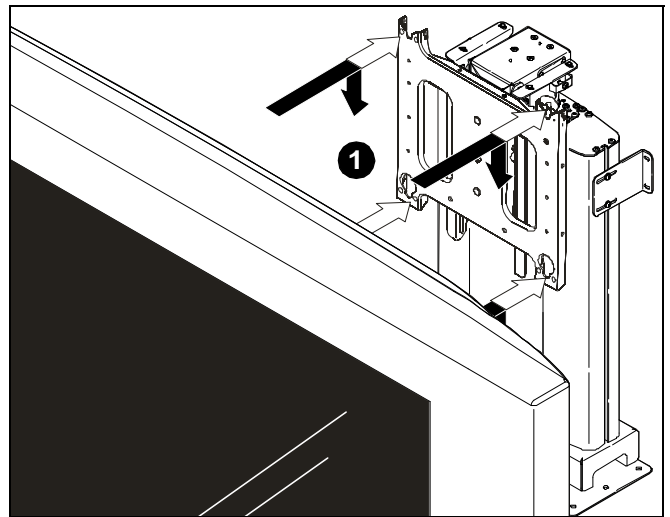
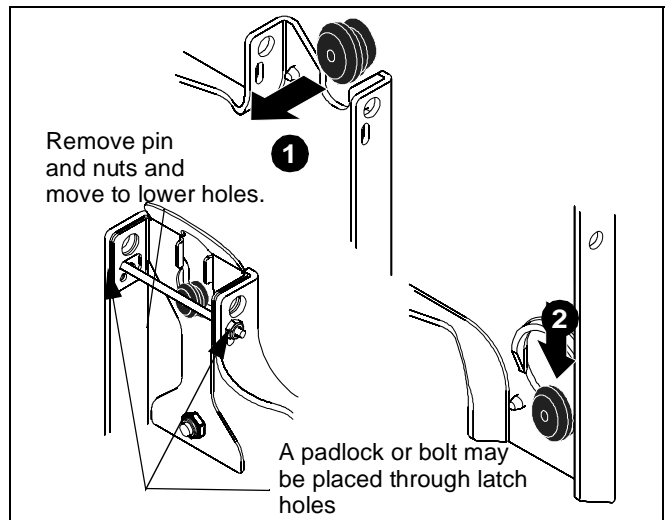

Figure 9:
Figure 10
1. While supporting both sides of display, align four mounting buttons on display or interface bracket with four mounting holes in faceplate. (See figure 9) and (See figure 10)
2. Lower display into place listening for audible "click" to ensure recessed area of mounting buttons are properly seated in lower area of mounting holes and "click lock" mechanism has engaged. (See figure 9) and (See figure 10)
NOTE: Holes are provided in the faceplate for use with a padlock or similar locking device, if desired. In addition, the pin and nut may be removed from the upper holes and moved to the lower holes for use as a more permanent locking device. (See figure 10)